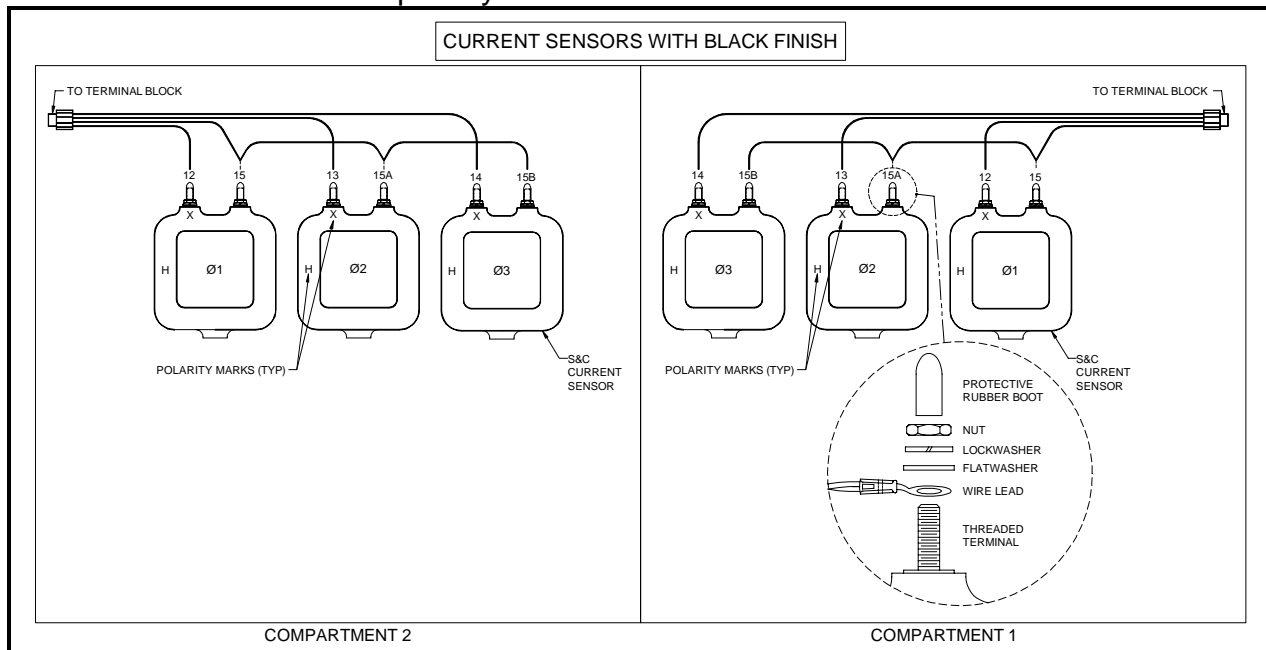

Figure 7 – Current Sensor (Black Finish) Connections – Motor operated switch
- 2.11 For motor operated switches with current sensors, connect the leads from each current sensor (black finish) as shown in figure 7.
- 2.11.3 Using hardware furnished, connect the sensor to the wiring harness as shown in figure 7.